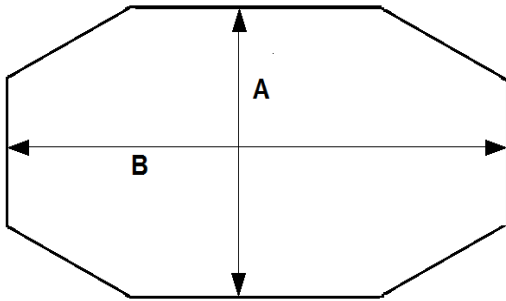
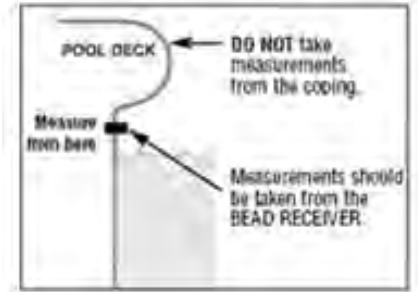

Figure 1
Figure 2
Referring to the illustration of your emerald pool (figure 1), be sure that the width (A) and the length (B) measurements are made at the bead receiver (where the liner snaps into the track), not at the edge of the coping (the edge of the pool deck). See figure 2.